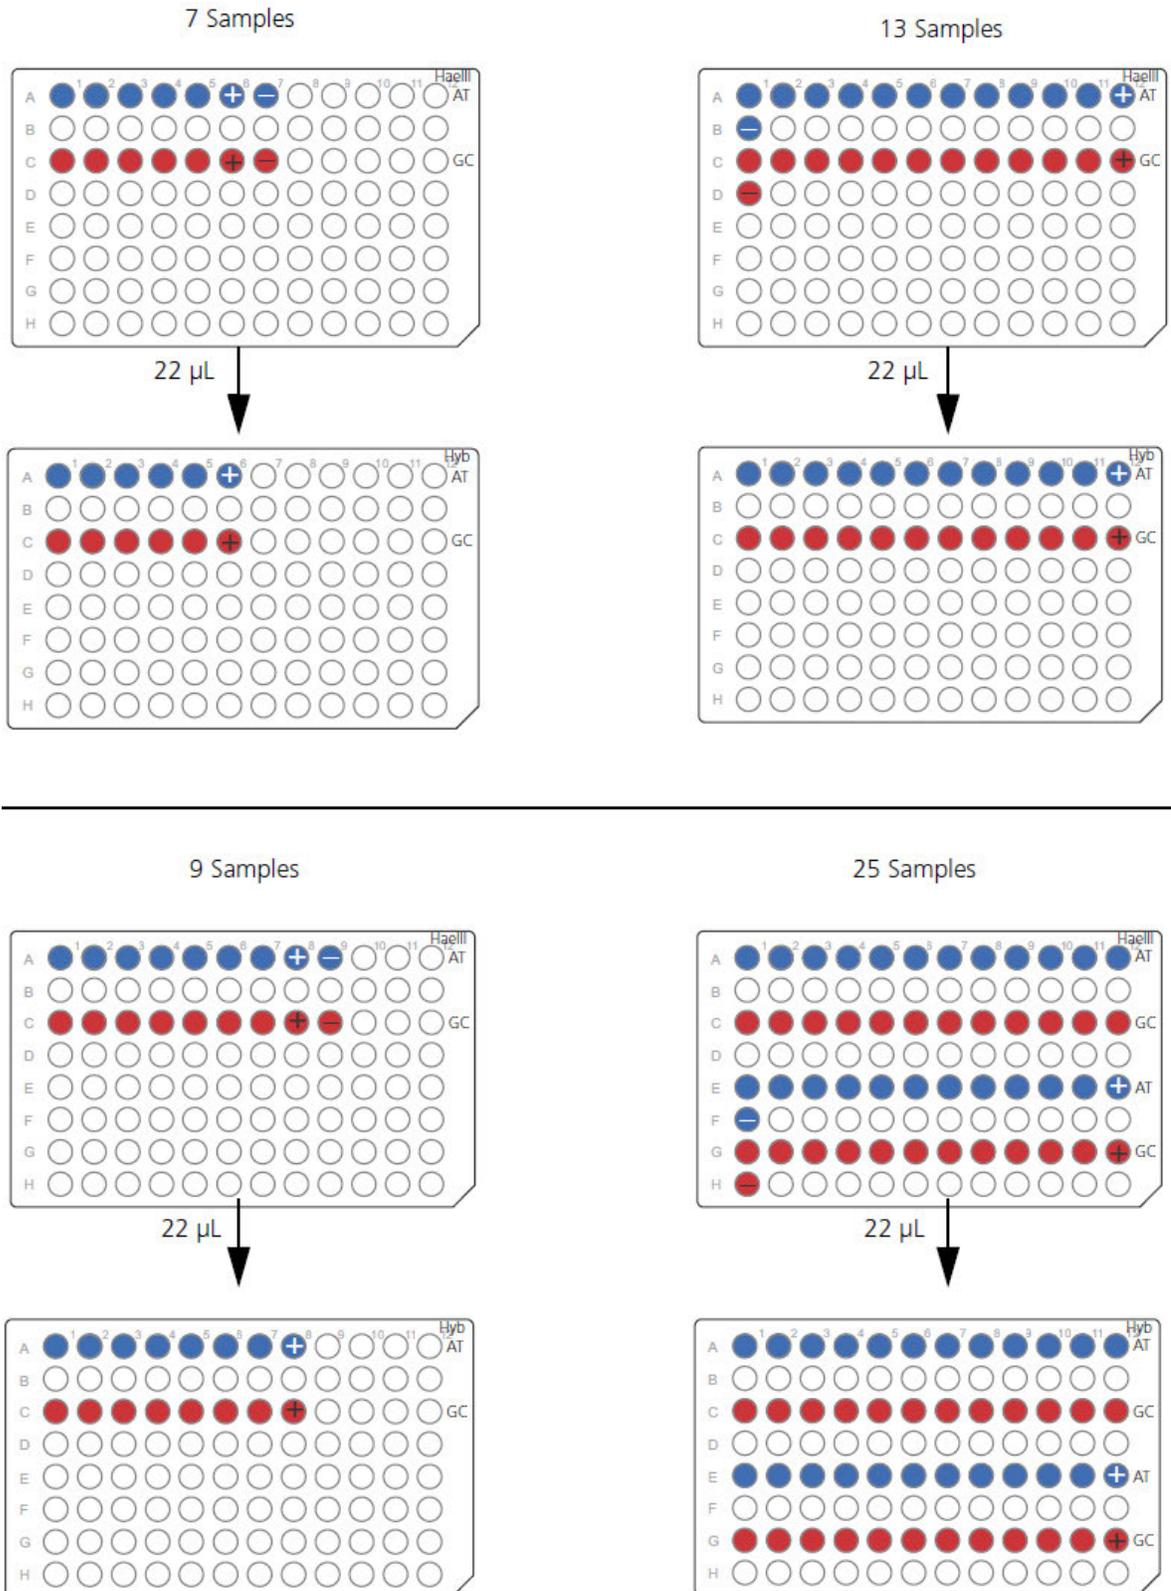

Figure 29 Add the HaeIII product to the Hyb Plate.
4. Use a multichannel P200 pipette to transfer 22.0  $\mu\text{L}$  of the HaeIII product in the **HAE Plate** to the corresponding well of the **Hyb Plate**. (Figure 29.)